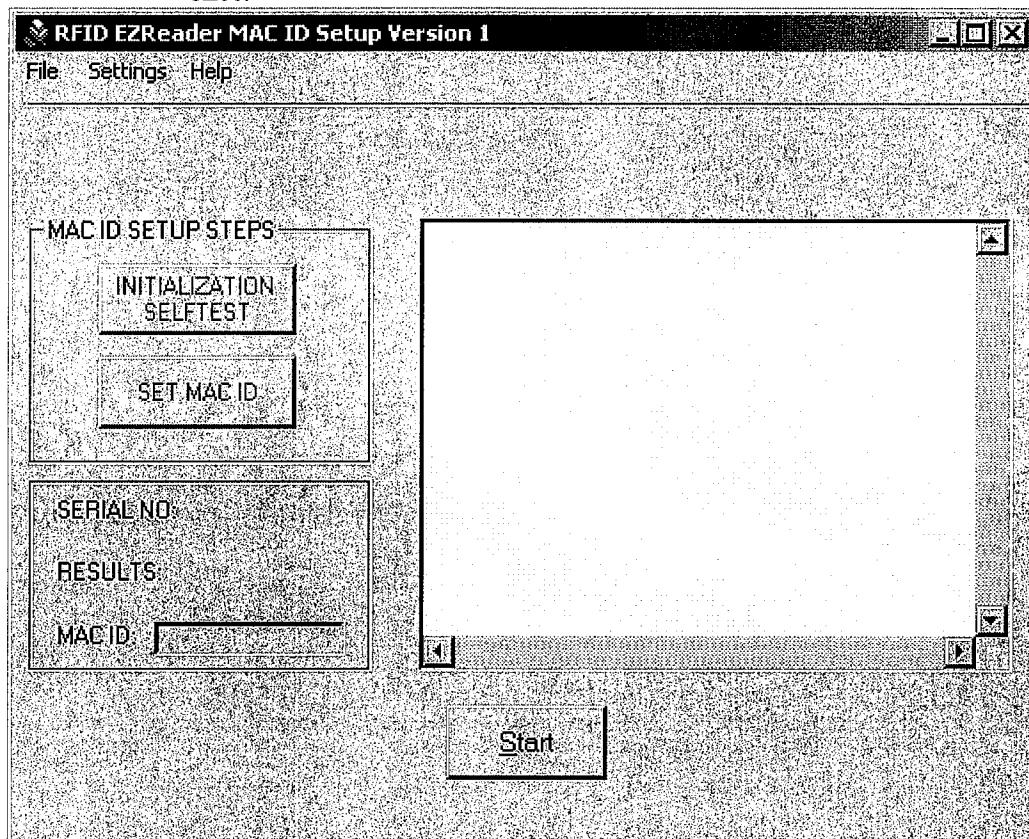

Figure 31
9.15 Program MAC ID into DUT using RFID EZReader MAC ID Setup program. See Figure 31.